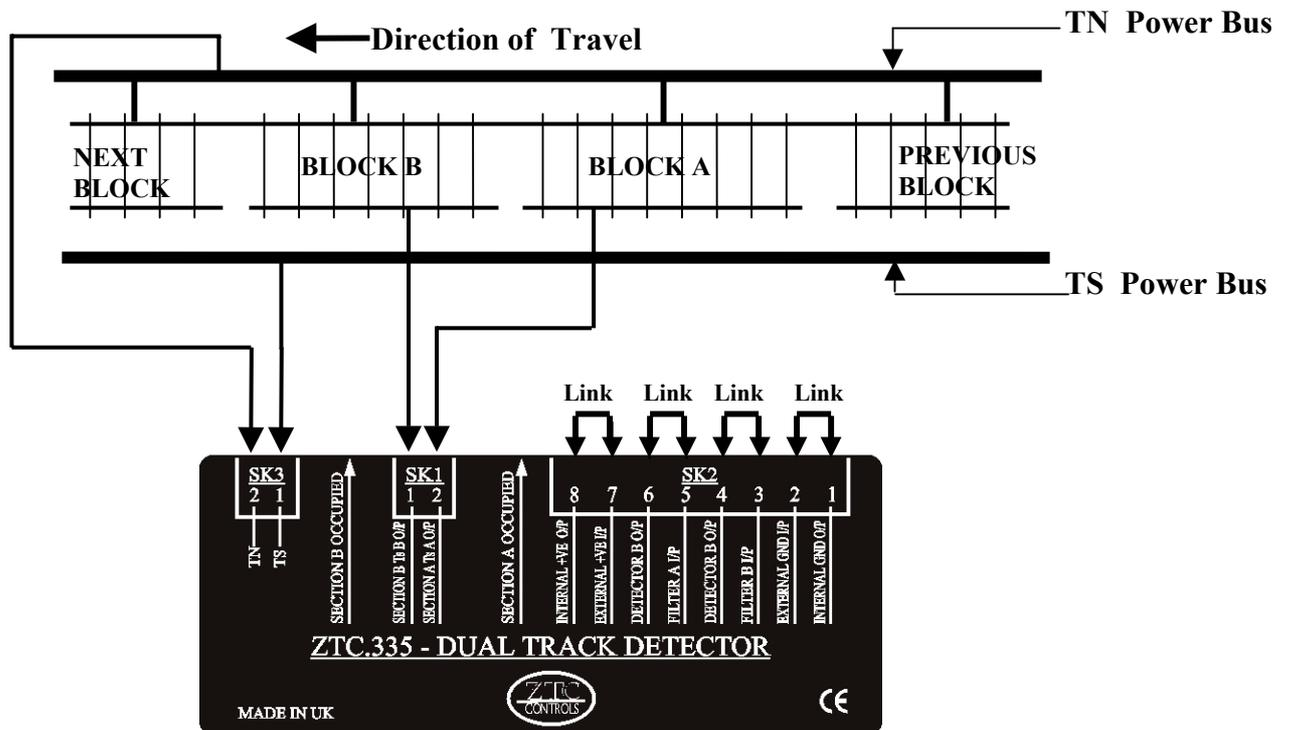

FIGURE 2
- 3.6 To simplify the installation however the ZTC 335 does have its own internal power supply which may be used to power the module and any external lamps or relays up to a maximum of 250mA. But optical isolation will be breached. This is achieved by linking Pins 1 & 2 and Pins 7 & 8 of SK2 together, see figure 2. In addition it should be remembered that if power is taken from the Power Bus in this way then you will be using power that would normally be used to power locomotives.